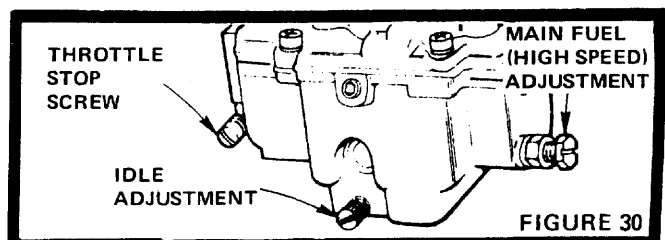

FIGURE 30
- Main Fuel (High Speed) Screw (Fig. 30) should not require adjustment. If resetting is necessary, turn clockwise, closing finger tight ONLY, then turn counterclockwise 1 - 1/8 to 1 - 3/8 turns.
- Turn Idle Adjusting Needle (Fig. 30) clockwise, closing finger tight ONLY, and then turn counterclockwise 1 - 1/8 to 1 - 3/8 turns.
- Throttle Stop Screw (Fig. 30) should not require adjustment. If resetting is necessary, set to obtain the slowest engine speed that will allow smooth acceleration.